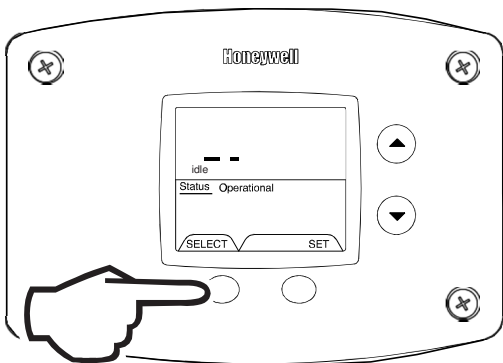

Fig. 66
3. Press the "Select" button to view the error code for 'code 10'. If there is a number displayed, note what the number is. The label next to the water heater display will identify the code number. If no number is displayed with only a '--' in the water heater display, then there has not been an error code for error code index 10 (Fig. 66).